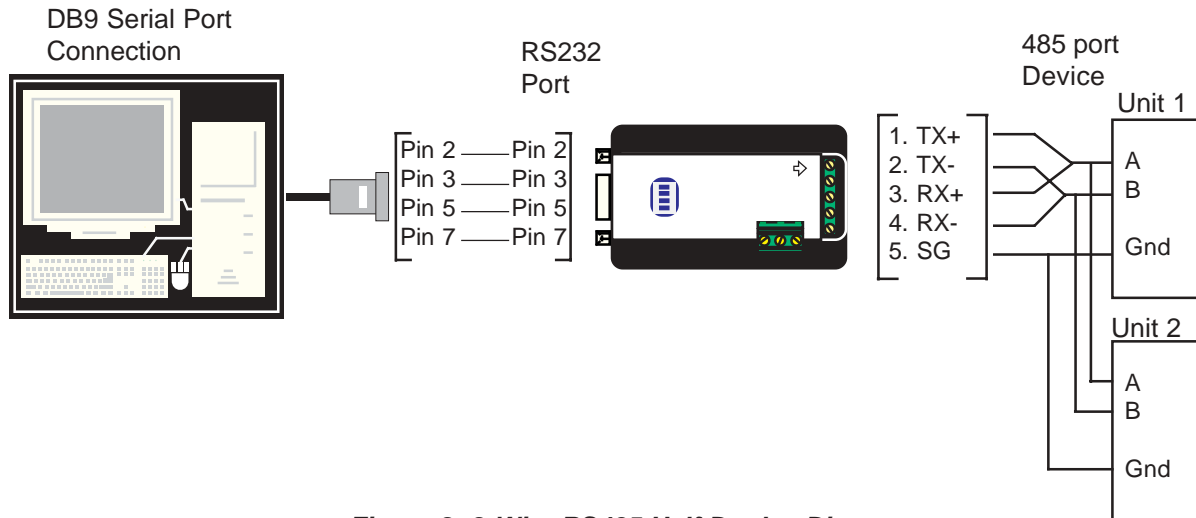

Figure 2: 2-Wire RS485 Half Duplex Diagram
Follow the wiring diagram in Figure 2 to connect the converter to 2-wire half-duplex network. Short (TX+ & RX+), consider this as (A) & connect it to network's (A). Short (TX- & RX-), consider this as (B) & connect it to network's (B).